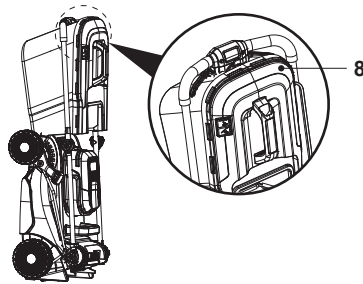

Fig. 23
- It's recommended to store the mower with the grass catcher (8) hooked on the mower and the mulching insert (24) installed in the mower (Fig. 23).